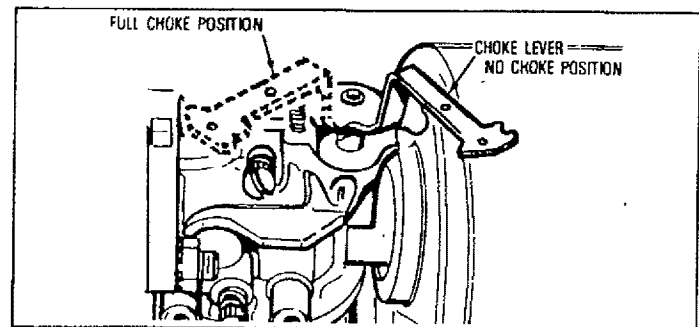

FIG. 5
- Apply the choke (Fig. 5). Rotate choke lever to its **FULL CHOKE POSITION**. If engine is warm, close the choke only part way or leave it fully open. A warm engine needs less choking than a cold engine.